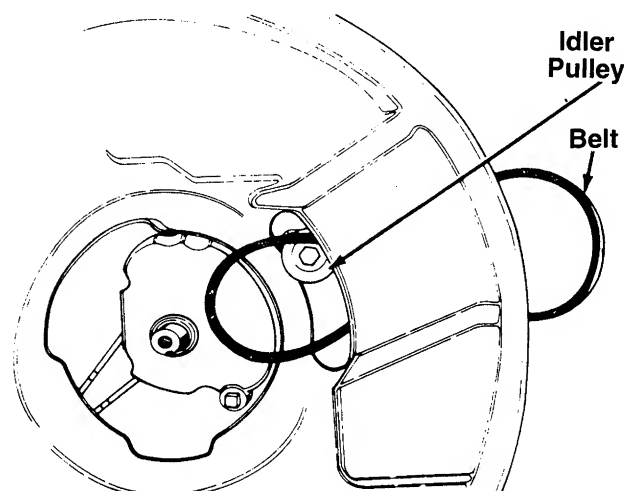

FIGURE 18.
- A. Push the idler pulley up out of the way as shown in figure 18.
- B. Slide the belt in from the rear of the deck, and place it around the transmission pulley. See figure 18.